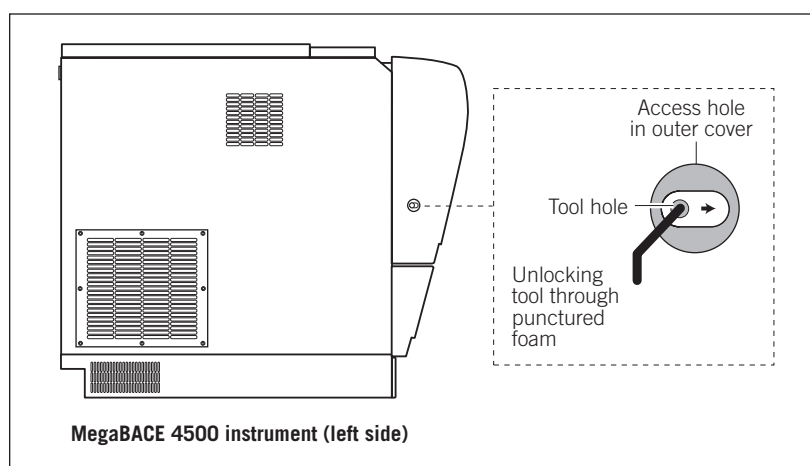

Figure 8-1. The unlocking tool and the access hole on the left side of the electrophoresis compartment lid.
2. Insert an unlocking tool, such as a hex wrench or screwdriver, to puncture the foam in the access hole (figure 8-1).